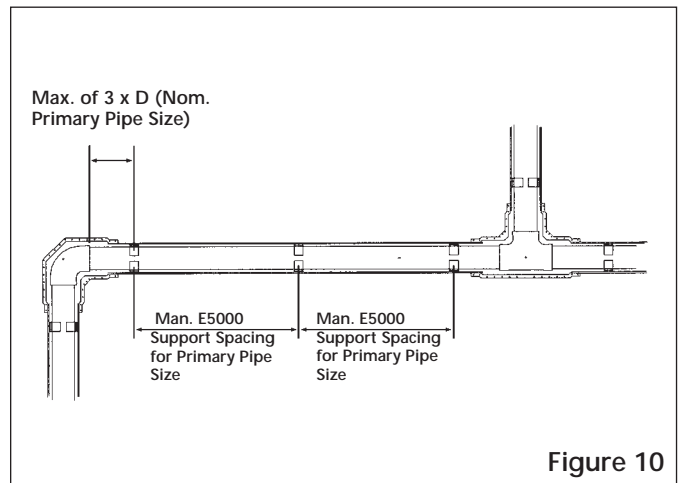

Figure 10
- A. Centralizers, Supports, and Guides**—Primary centralizers (and anchors) are required for systems with thermal expansion and/or contraction (see Para. B, Anchors). Spacing of centralizers can be determined from the support spacing information in Manual No. E5000 (Engineering & Design Guide) and E5200 (CHEM THREAD Engineering & Design information). **DO NOT** put centralizers next to containment fittings. As a general rule, the support spacing must be reduced so the centralizers are located at a maximum distance of three times the primary pipe diameter from the primary fitting (see Fig. 10). **Note: In all cases, centralizers must be at least 6" away from the end of the containment fitting.**